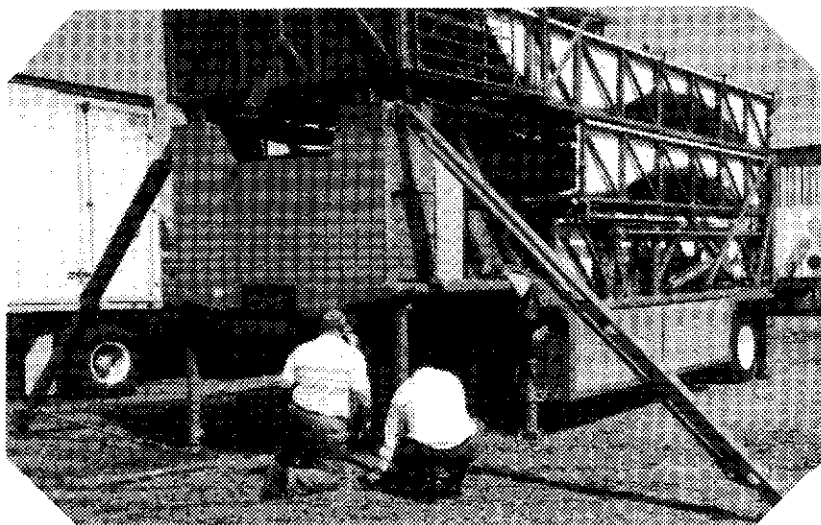

FIG. 2
4. SWING OUT FRONT MUD SILLS AND GOOSENECK SCREW JACK LOWER TO THE GROUND. USING THE TURN BUCKLES AND BRACES STABILIZE BOTH SIDES. (Fig. 2)